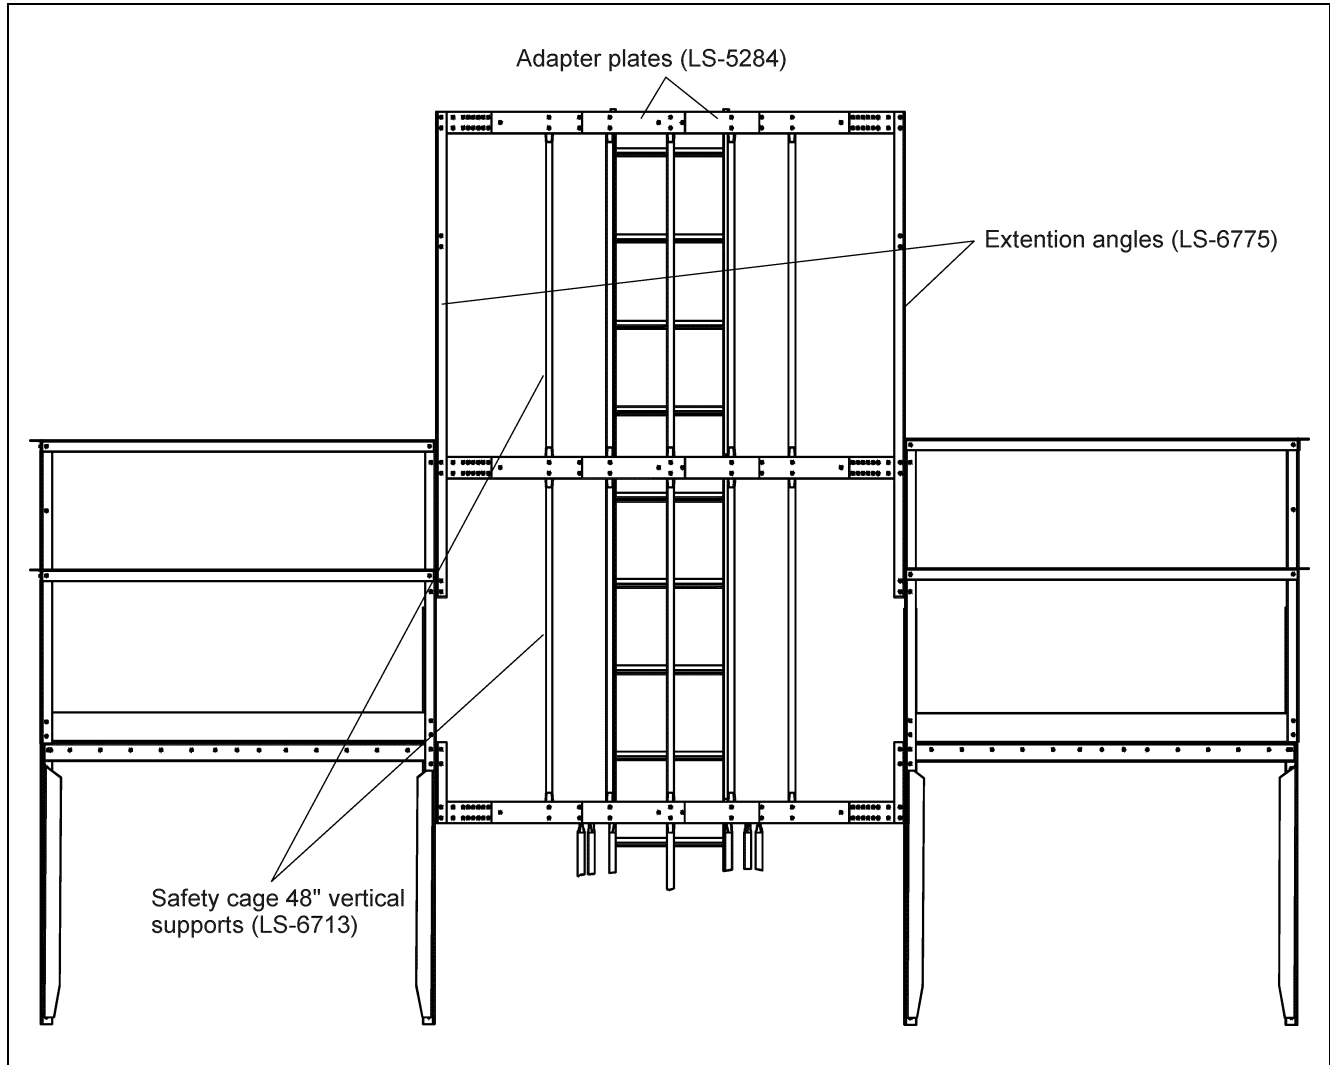

Figure 8Z
After completing the safety cage frame, attach the 48" vertical supports from adapter plate to adapter plate as shown in Figure 8Z. This will require ten (10) supports, five (5) between each set of adapter plates. Bolts should have the head of the bolt to the inside of the safety cage. Refer to Pages 102 and 103 for safety cage and bell cage installation to complete access door ladder assembly.